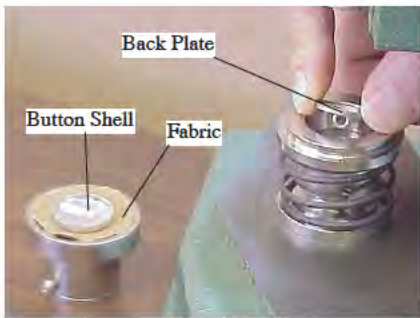

Figure 18
3. Drop the back plate with wire loop facing down in the bottom die, and place a piece of the cut fabric on the Top Die, then center the shell on top of the fabric as shown in Figure 18.